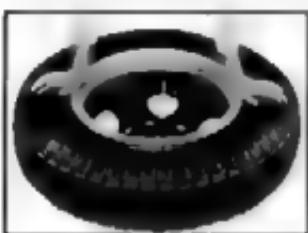

Fig. 82
5. Place side ring in position with operating notch "B" (fig. 82) approximately three inches from valve on either side.